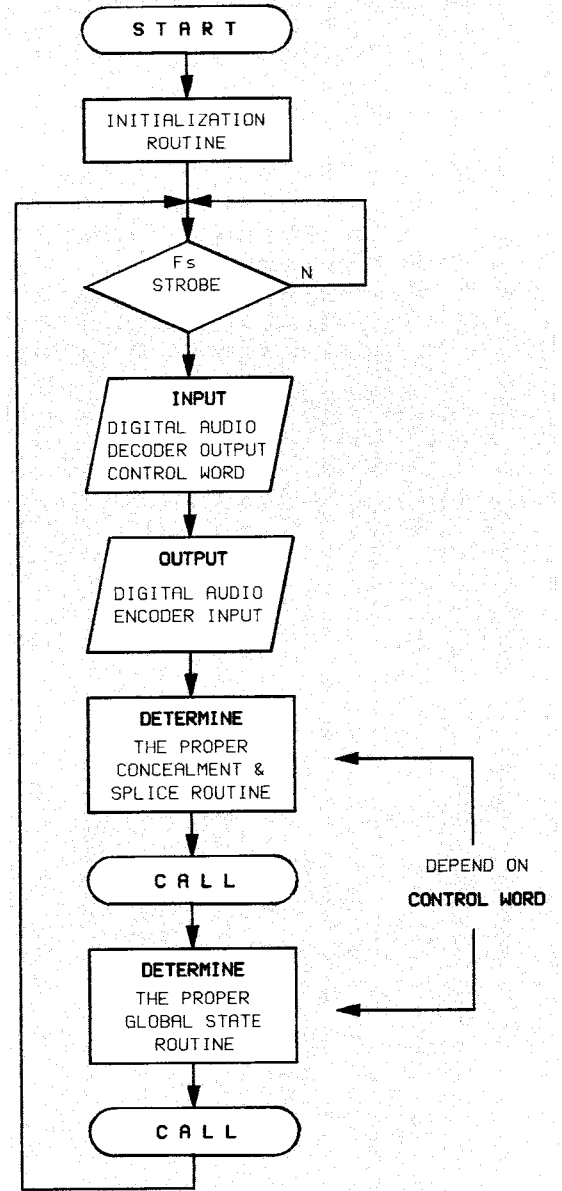

Fig. 7: Flowchart of the DSP main program.
The number of operations to be performed by the signal processor during one period of the sampling frequency is quite large (Fig. 7). The DSP applied to the MAPRO board, a TMS320C10(15) with a 25 MHz clock at 54 kHz sampling frequency (48 kHz + varispeed margin) runs 115 cycles per sample period. This is not enough to perform all the functions described before, if using standard programming methods in a typical application environment, even on the condition that the above-mentioned optimized algorithms (see Global States) are applied. The decision process needed to select the right operation mode from 8192 possible combinations requires at least half of the available cycles if implemented as a tree structure with branch instructions.